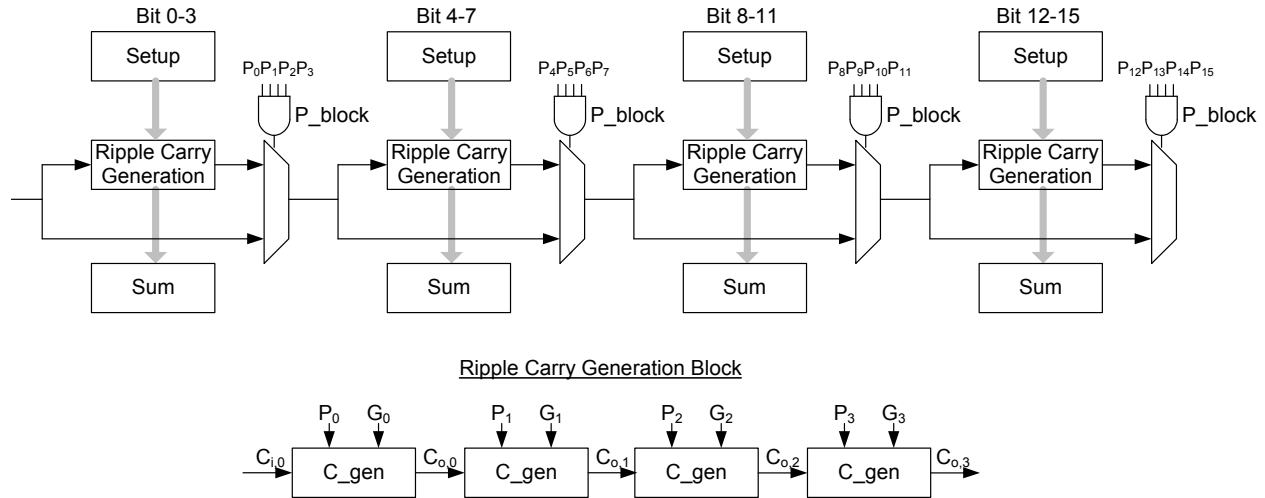

Figure 6. Carry bypass adder architecture used in Problem 5.0
5.1 (9 Points) All inputs to a 16-bit, 4-stage carry-bypass adder, shown in Figure 6, are initially zeros. What new inputs (all of which arrive simultaneously) result in a worst-case delay to the sum? Give the specific input vectors for C_{in} , $A<15:0>$, and $B<15:0>$. In your answer, indicate which bit is the least significant bit (LSB). Explain briefly why this is the worst-case input. If necessary, use the delays t_{setup} , t_{c_gen} , t_{p_block} , t_{mux} , and t_{sum} in your explanation.
5.2 (11 Points) Shown below are two subsequent input states to the same carry-bypass adder (from Figure 6). Determine the actual delay from the arrival of the new inputs to the final sum generation. Briefly show what the worst-case path is and explain why. Again, assume that all inputs arrive simultaneously. Express your answer as an equation utilizing t_{setup} , t_{c_gen} , t_{p_block} , t_{mux} , and t_{sum} . All LSB's (least significant bits) are on the left.